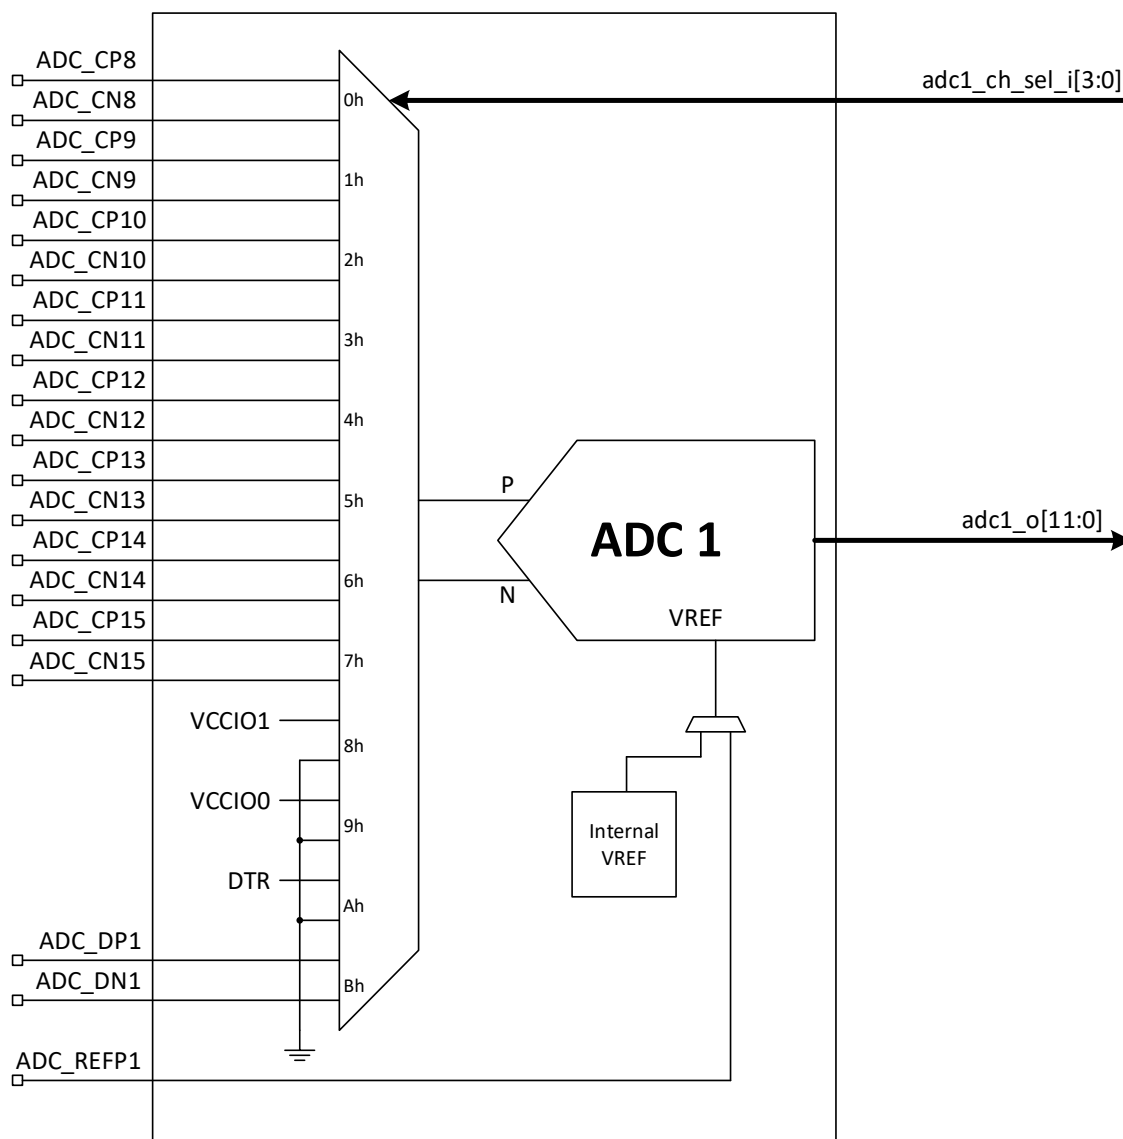

Figure 2.3. ADC Core Module ADC 1 Block
- ADC 1 Block (see Figure 2.3):